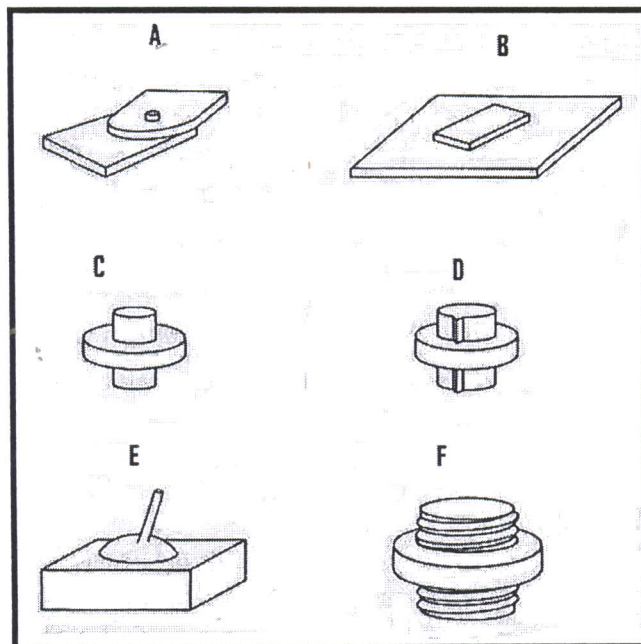

Figure 2: Construction of joint in industrial robots
- (c) Based on Figure 2, names all construction of joints in industrial robots. (6 marks)